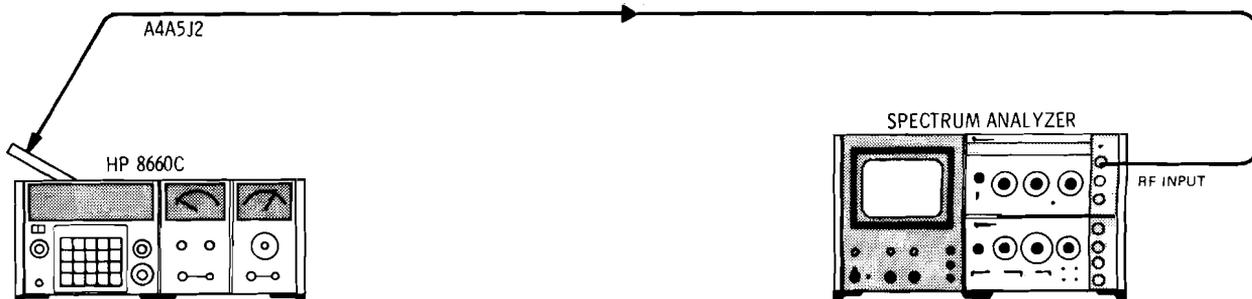

Figure 5-11. Output Amplitude Check Test Setup
6. Output Frequency and Amplitude Check (see Figure 5-11).